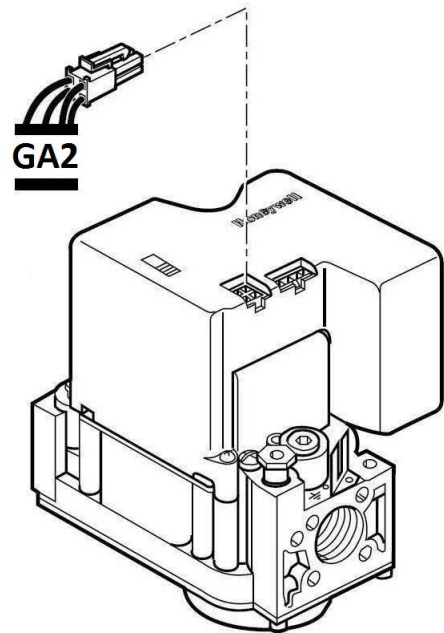

Figure 4
4. Connect the GA2 Adapter between the appliance wiring and the SmartValve™ in place of the connector removed in Step 4, **Figure 4**. Make sure the keyed connectors lock into place. Make sure your meter is connected properly.